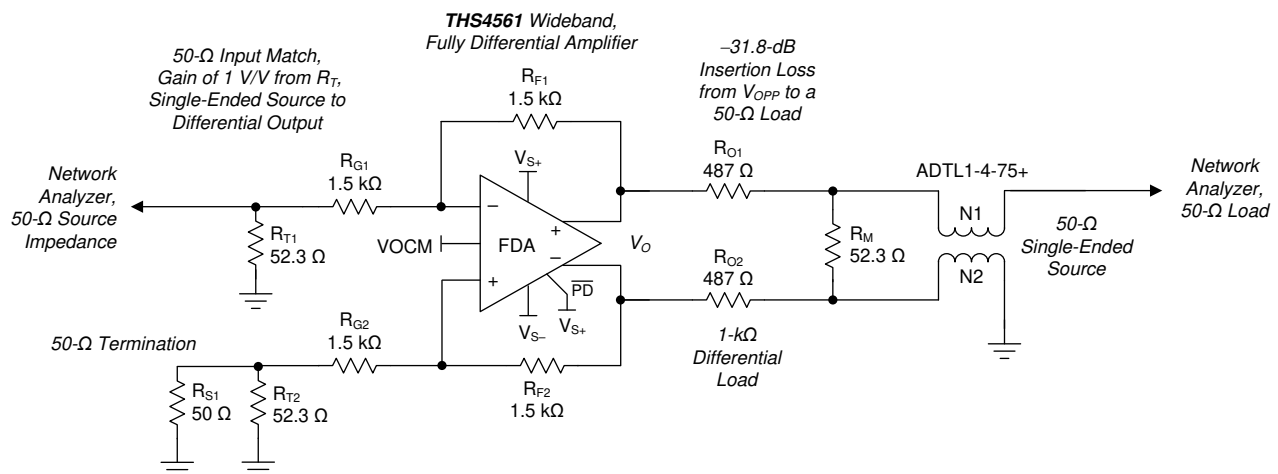

Figure 8-1. Single-Ended Source to a Differential Gain of a 1-V/V Test Circuit
at $T_A \approx 25^\circ\text{C}$, VOCM pin = open, $R_F = 1.5\text{ k}\Omega$, $R_L = 1\text{ k}\Omega$, $V_O = 2\text{ V}_{PP}$, $50\text{-}\Omega$ input match, $G = 1\text{ V/V}$, $\overline{PD} = V_{S+}$, single-ended input (SE-in), differential output (diff-out), and input and output referenced to default midsupply for AC-coupled tests (unless otherwise noted); see Figure 8-1 for a gain of 1-V/V test circuit.
$V_O = 200\text{ mV}_{PP}$, see Figure 8-1 and Table 10-1 for resistor values
See Figure 8-1
$V_O = 200\text{ mV}_{PP}$, see Figure 8-1 with R_L adjusted
at $T_A \approx 25^\circ\text{C}$, VOCM pin = open, $R_F = 1.5\text{ k}\Omega$, $R_L = 1\text{ k}\Omega$, $V_O = 2\text{ V}_{PP}$, $50\text{-}\Omega$ input match, $G = 1\text{ V/V}$, $\overline{PD} = V_{S+}$, single-ended input, differential output, and input and output referenced to default midsupply for AC-coupled tests (unless otherwise noted); see Figure 8-1 for a gain of 1-V/V test circuit.
at $T_A \approx 25^\circ\text{C}$, VOCM pin = open, $R_F = 1.5\text{ k}\Omega$, $R_L = 1\text{ k}\Omega$, $V_O = 2\text{ V}_{PP}$, 50- Ω input match, $G = 1\text{ V/V}$, $\overline{\text{PD}} = V_{S+}$, single-ended input, differential output, and input and output referenced to default midsupply for AC-coupled tests (unless otherwise noted); see Figure 8-1 for a gain of 1-V/V test circuit.
5 MHz, 2- V_{PP} input, $G = 1\text{ V/V}$, see Figure 8-1
The characterization circuits are typically operated with a single-ended, matched, 50-Ω, input termination to a differential output at the FDA output pins because most lab equipment is single-ended. The FDA differential output is then translated back to single-ended through a variety of baluns (or transformers) depending on the test and frequency range. DC-coupled step response testing uses two 50-Ω scope inputs with trace math to measure the differential output. Single-supply operation is most common in end equipment designs. However, using split balanced supplies allows simple ground referenced testing without adding further blocking capacitors in the signal path beyond those capacitors already within the test equipment. The starting point for any single-ended input to differential output measurements (such as any of the frequency response curves) is shown in Figure 8-1.
Most characterization plots fix the R_F ($R_{F1} = R_{F2}$) value at 1.5 kΩ, as shown in Figure 8-1. This element value is flexible in application, but 1.5 kΩ provides a good compromise for the parasitic issues linked to this value, specifically:
- Added output loading: The FDA functions similarly to an inverting op amp design with feedback resistors appearing as an added load across the outputs (the approximate total differential load in Figure 8-1 is $1.5 \text{ k}\Omega \parallel 1 \text{ k}\Omega = 857 \text{ }\Omega$). The 1.5-kΩ value reduces the power dissipated in the feedback networks.
The frequency domain characterization curves start with the circuit and component selections of Figure 8-1. Some of the features in this test circuit include:
- Translating from a 1-k Ω differential load to a 50- Ω environment introduces considerable insertion loss in the measurements (–31.8 dB in Figure 8-1). The measurement path insertion loss normalizes when reporting the frequency response curves to show the gain response to the FDA output pins.
Starting from the test circuit of Figure 8-1, various elements are modified to show the effect of these elements over a range of design targets, specifically:
- Resistive and capacitive output load testing. Changing to lower resistive loads is accomplished by adding parallel resistors across the output pins in Figure 8-1. Changing to capacitive loads adds series output resistors to a differential capacitance before the 1-k Ω sense path of Figure 8-1.